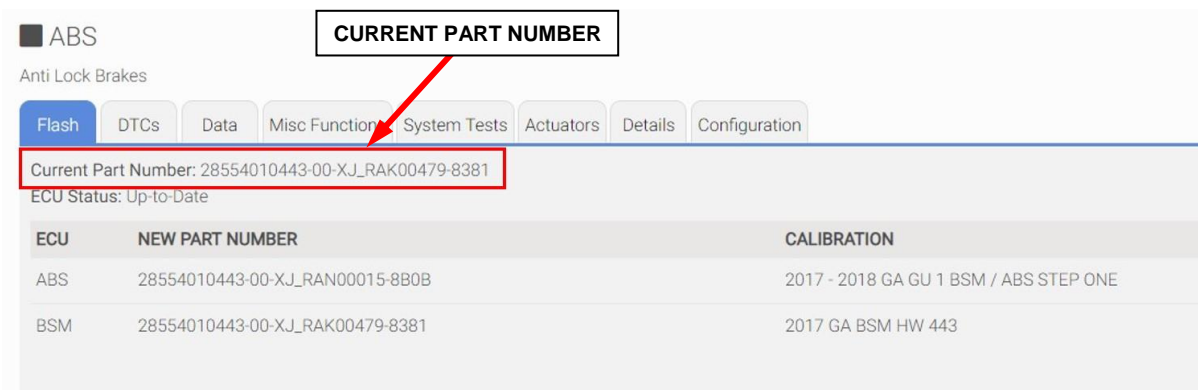

Figure 1 – Example of ECU “Current Part Number”
10. From the ABS “**Flash**” tab, record the “**Current Part Number**” (Figure 1) for the software currently installed in the Electronic Control Unit (ECU), then proceed to the table in (Figure 2) to determine which flash **Procedure A, B, C, D, E, F** is the appropriate starting point for the specific hardware and software combination currently installed in the vehicle.